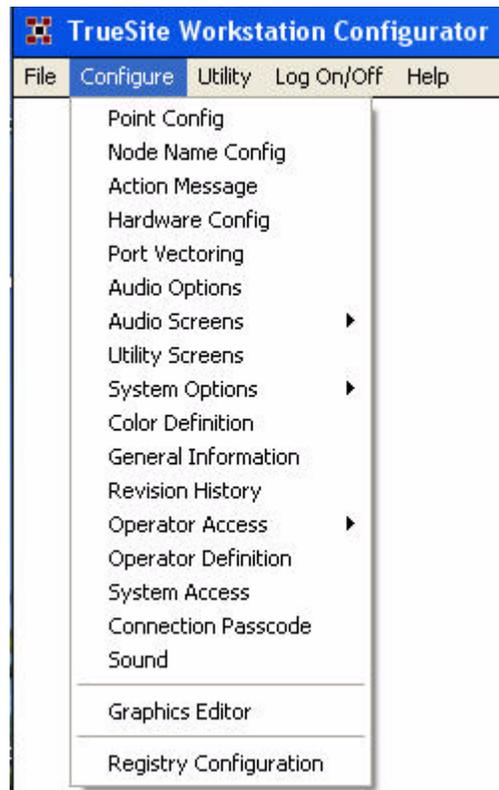
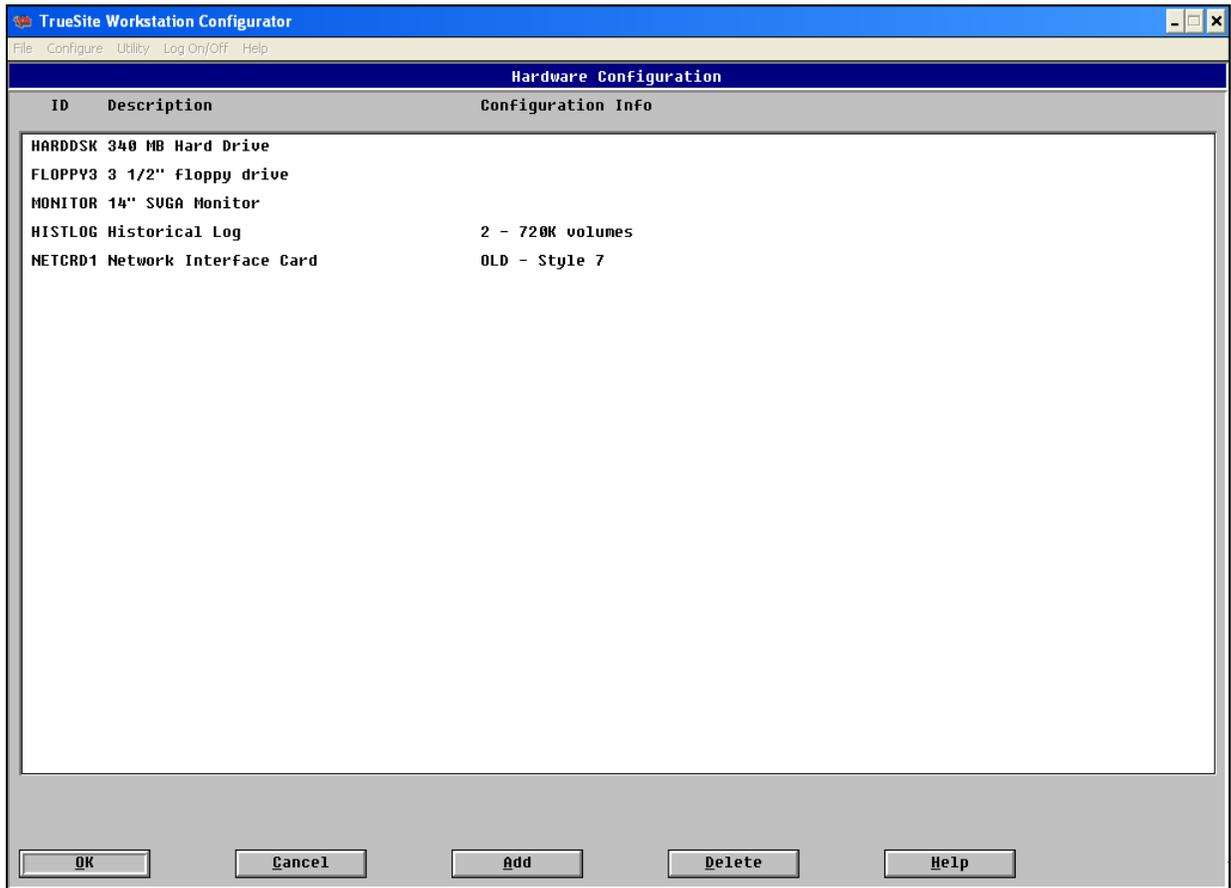

Figure 5-1 TrueSite Workstation Configurator Screen
Figure 5-2 TrueSite Workstation Configurator Hardware Configuration Screen
2. From the **Configure** menu (Figure 5-1), select the **Hardware Config** option. The system displays the **Hardware Configuration** screen shown in Figure 5-2.